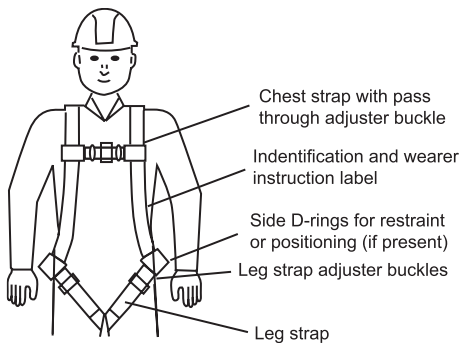

Figure 8. Fall Arrest System (Front)
2. Full-body harness as shown in Figures 8 and 9.